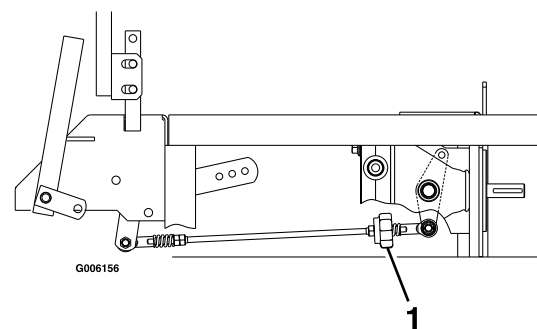

Figure 29
9. Bring the LH motion control lever into the neutral position. Adjust the LH pump control rod length by rotating the tracking adjustment knob in the appropriate direction until the wheels slightly creep in reverse. Move the motion control lever to the reverse position and while applying slight pressure to the lever allow the reverse indicator spring to bring the levers back to neutral. The wheel must stop turning or slightly creep in reverse (Figure 29).